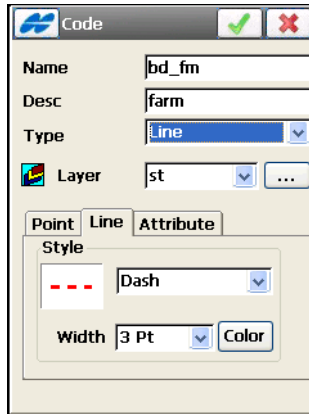

Figure 6-22. Edit Code - Line Type
- *Line*: when *Line* is selected in the *Type* field, color, symbol for node, style, and thickness for line attributes display (Figure 6-22 on page 6-20).